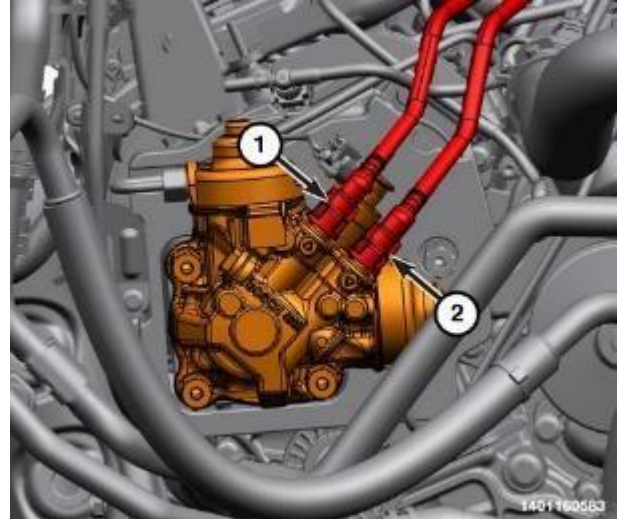

Figure 74 – Low Pressure Supply Lines
- 126. Connect the low-pressure return (1) line to the fuel injection pump. Leave the supply (2) loose at this time (Figure 74).